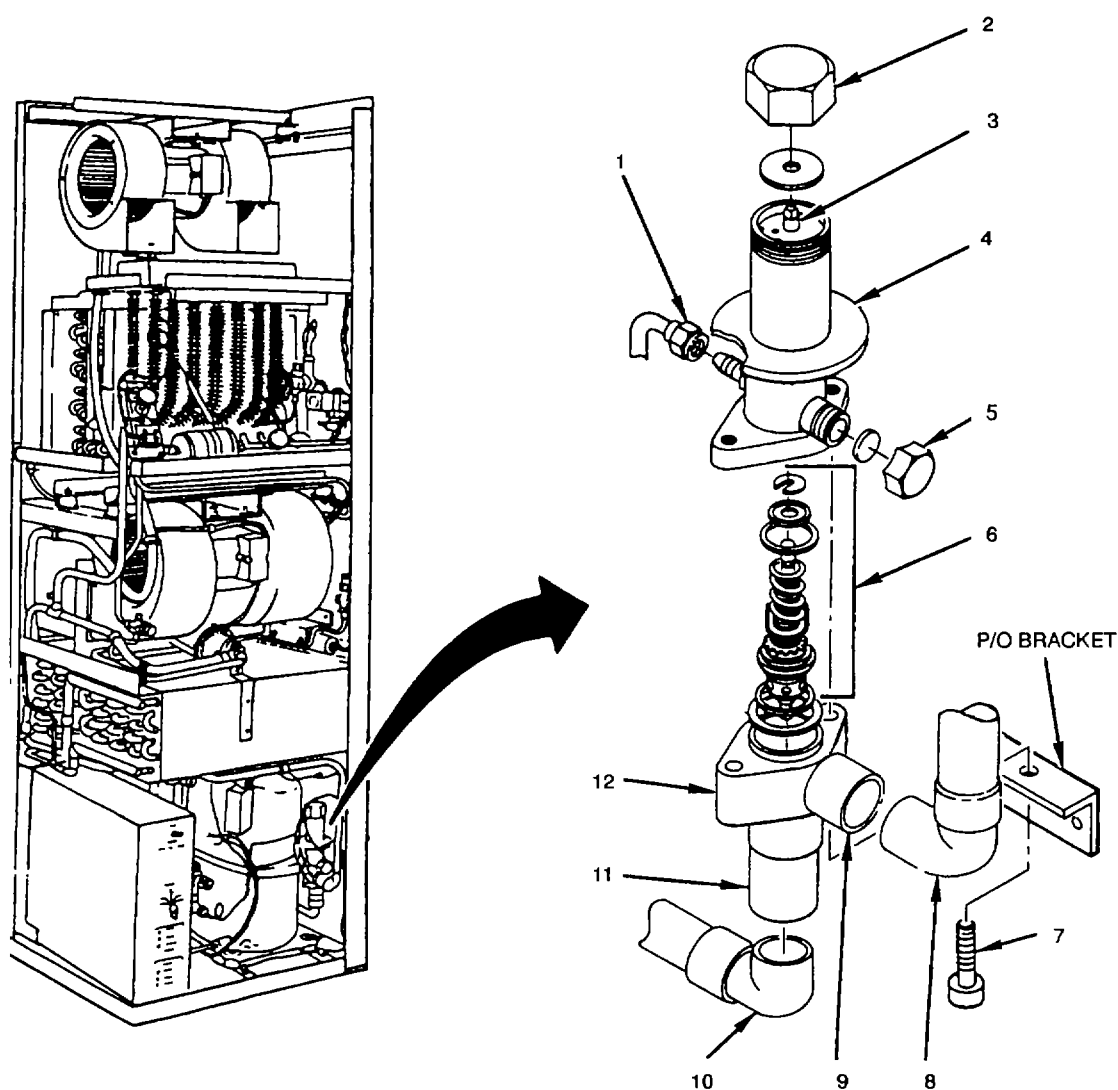

Figure 5-23. Hot Gas Bypass Valve (V4)
- (1) Disconnect air conditioner input power at source, and
- (2) Remove compressor section panel (paragraph 4.24).
- a. Inspect for evidence of leaks, damaged lines, and loose or missing mounting hardware (see fig. 5-23).